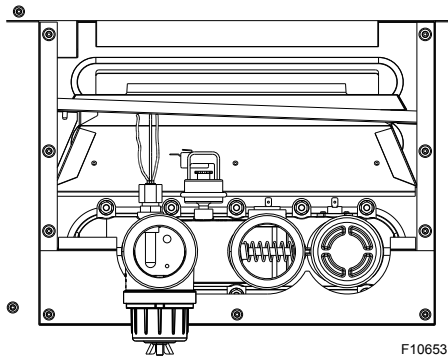

Figure 33. Component Wiring Locations - In/out Header
2. Disconnect wires at high limit, AGS (automatic gas shutoff), water pressure switch on the in/out header and ProTek Shield bonding wire. See **Figure 33**.